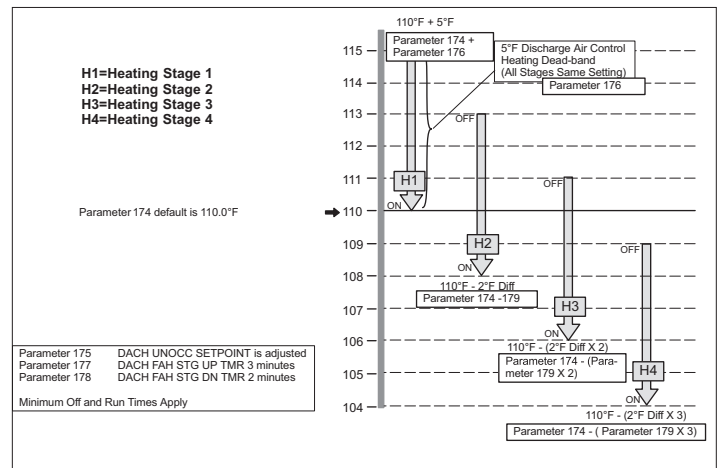

Figure 47. Discharge Air Control Heating Stages - Default Values Shown
- Refer to “Figure 47. Discharge Air Control Heating Stages - Default Values Shown” for Discharge Air Control Heating heating stages.